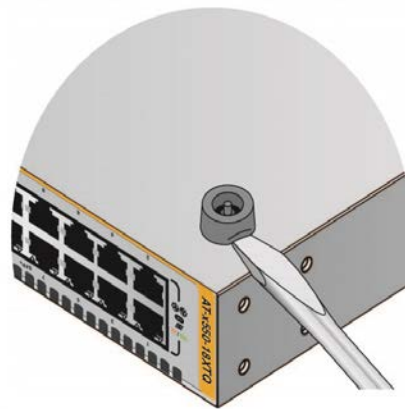

Figure 41. Removing the Plastic Feet from the Bottom Panel of the Switch
- Use a small flat-head screwdriver to pry the four plastic feet from the bottom of the switch. Refer to Figure 41.